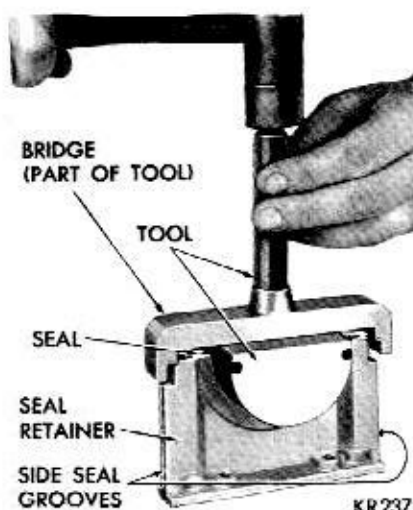
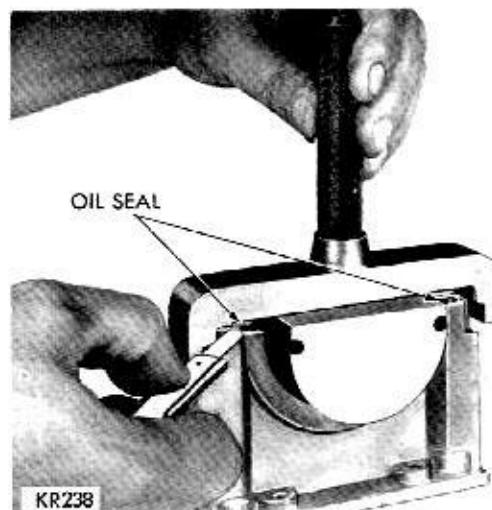

Fig. 48—Installing Rear Main Bearing Lower Oil Seal
Fig. 49—Trimming Rear Main Bearing Lower Oil Seal
(1) Install a new seal in seal retainer so ends protrude (Fig. 48).
(2) Install bridge on tool and tap the seal down into position with Tool C-3625 for 383 Cubic Inch Engines or Tool C-3743 for 440 Cubic Inch Engines until tool is seated.
(3) Trim off that portion of the seal that protrudes above the cap (Fig. 49).